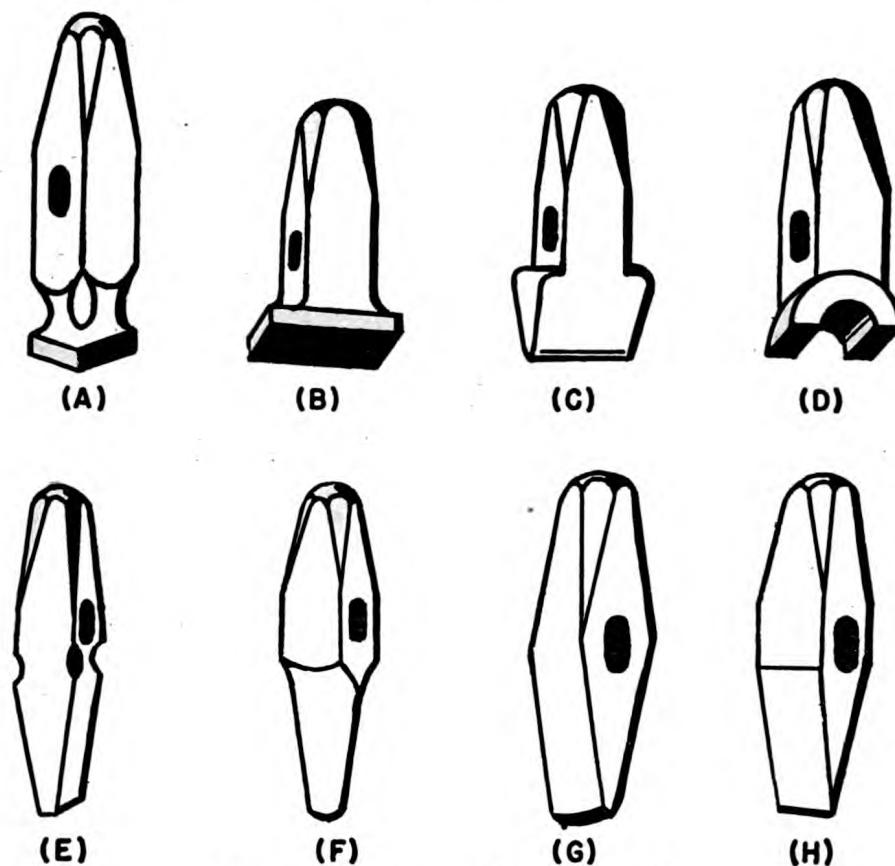

Figure 84.—Types of hammer heads.
The **SQUARE-HEADED SET HAMMER**, shown in (A) of figure 84 is used to produce a flat surface, or to make a square shoulder or projection. A **FLATTER**, the head of which is shown (B) is used for the same class of work as the square-headed set hammer. But the flatter has a larger face than the square-headed set hammer, as you can see. For this reason the flatter is used in finishing to flatten down a surface.
The FULLER, (C) in figure 84, is the set hammer head used in spreading the metal. Because of its shape, the fuller head concentrates the force of the sledge blow on a small surface and therefore makes it more effective at that particular place. Its effect is much like that of the straight-peen hammer.
You make use of CHISEL-SHAPED set hammer heads, like those in figure 84 for CUTTING and NICKING your material. The cold-cutter chisel shaped